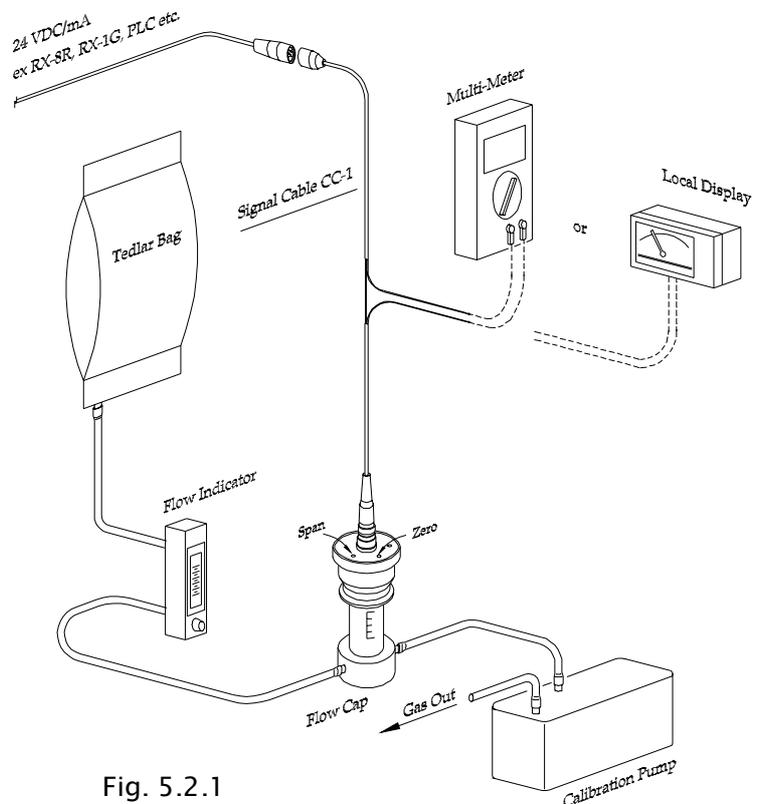

Fig. 5.2.1
- Assemble the "Tedlar" bag, flow-indicator, flow cap and calibration pump as shown in fig. 5.2.1 (use PTFE tubing to connect the items).
2 - Place the TX-KFP unit into the flow cap and switch on the calibration pump (see fig. 5.2.1).